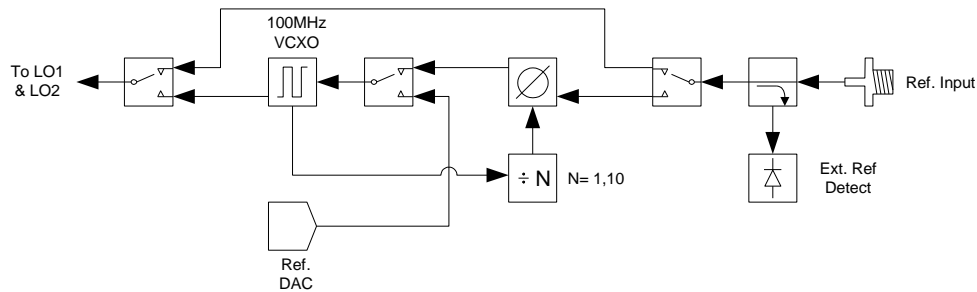

Figure 2 Reference section
The SC5360B local oscillator (LO) synthesizers reference an internal 100 MHz VCXO or an external reference source directly or indirectly. The device can be setup via its registers to directly pass an external 100 MHz to the LO synthesizers or phase lock the VCXO to it; see Figure 2 for details. When the device is set to reference the internal VCXO, its frequency accuracy is control via the reference DAC. On power up, if the internal VCXO is used, a factory calibrated DAC value sets the frequency accuracy to within 2.5 ppm. If the user needs to make fine adjustments, it could be done by writing a new value to the DAC via the REFERENCE_DAC register.